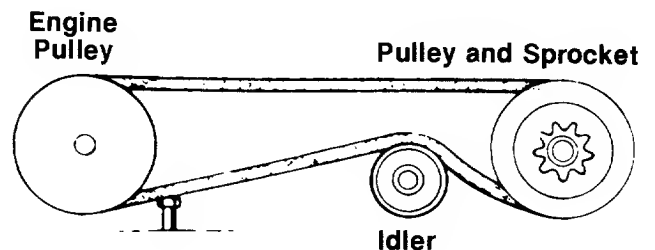

FIGURE 28.
11. Reassemble in reverse order with the new belt, making certain the idler pulley is under the belt. See figure 28.